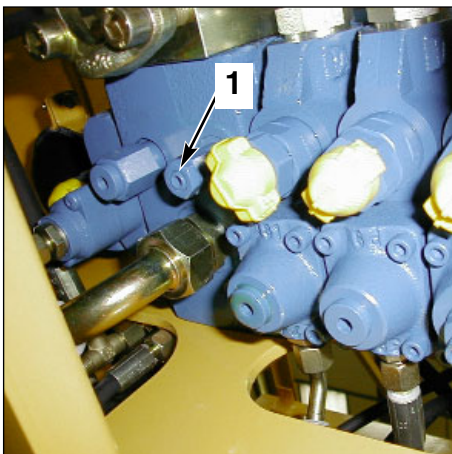

Fig. 2 SX18 valve block
- 3- Loosen the L.S. controller (1 fig. 2) previously over-tared, then adjust the pressure by turning the screw clockwise in order to increase the pressure.